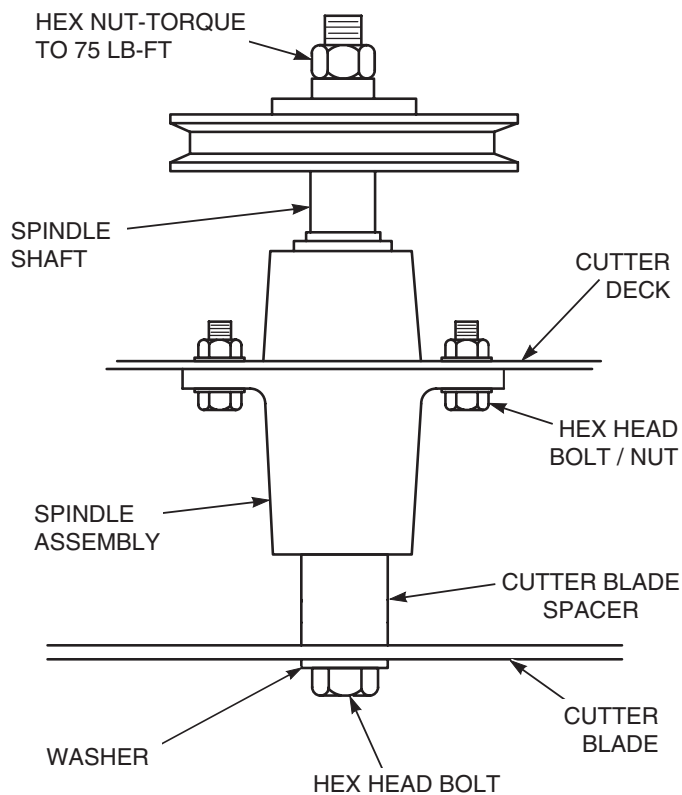

Figure 7-10. Blade Replacement
3. Secure the cutter blades to prevent them from rotating, (use the optional Blade Buddy tool P/N 9212, to assist in securing the cutter blades), remove the nut from the blade attaching bolt. Remove the cutter blade, bolt and spacer from the spindle shaft. See Figure 7-10.
- Install the hex nut to the blade bolt at the top of the cutter spindle. Secure the blades from rotating and torque to 75 lb-ft. See Figure 7-10.